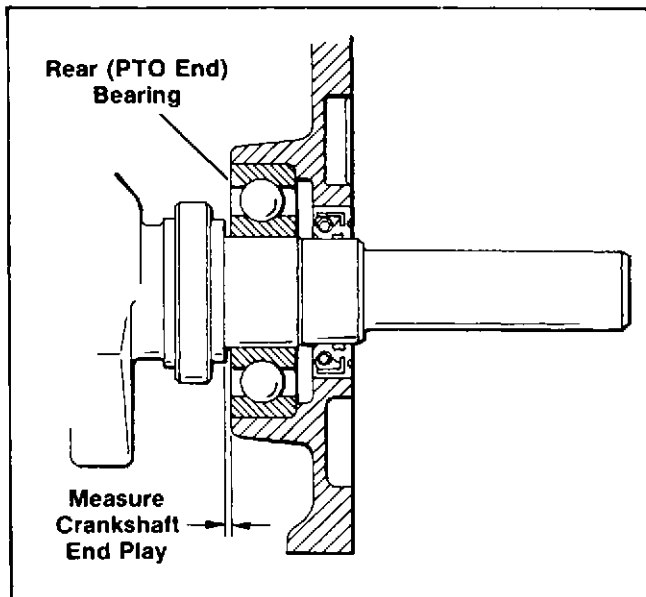

Figure 8-8. Measuring Crankshaft End Play
3. Crankshaft end play is measured (with feeler gauge) between inner race of rear bearing (P.T.O. end) and shoulder on crankshaft (see Figure 8-8). If end play is not within tolerance as stated in "Specification, Wear Tolerances, Torques and Special Tools" Section 9, remove bearing plate and add or subtract gaskets to achieve proper clearance.